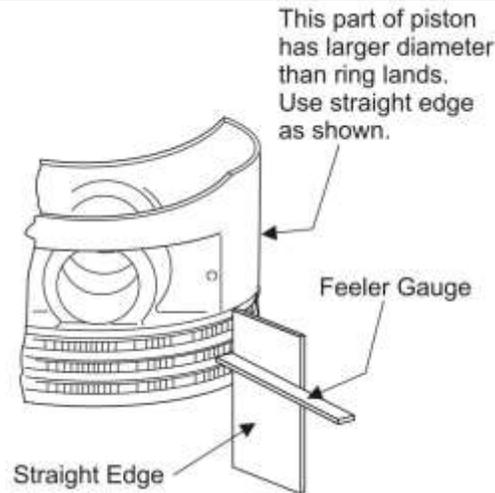

Figure 22
- G. To ensure correct installation, measure the side clearance of the rings in the grooves with a feeler gage and a straight edge (Figure 22). If the actual measurement is greater than the maximum allowable side clearance, per the latest revision of the *Service Table of Limits - SSP-1776*, replace the piston.